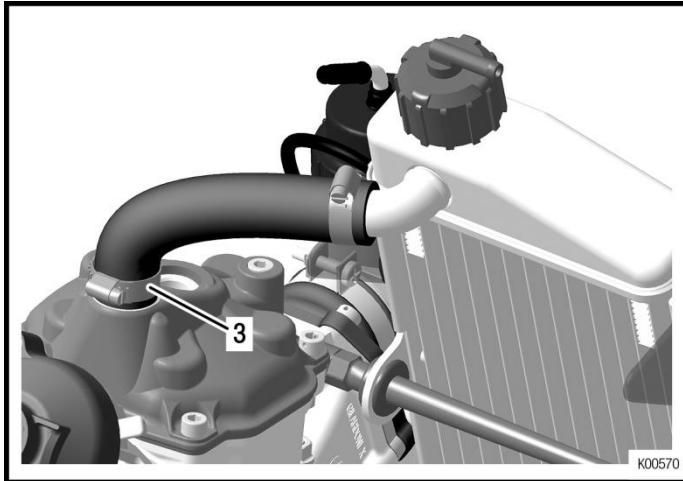

Fig. 10
- ➔ Attach the pre-assembled upper coolant hose to the engine using 1 hose clamp (Pos. 3), see Fig. 10.